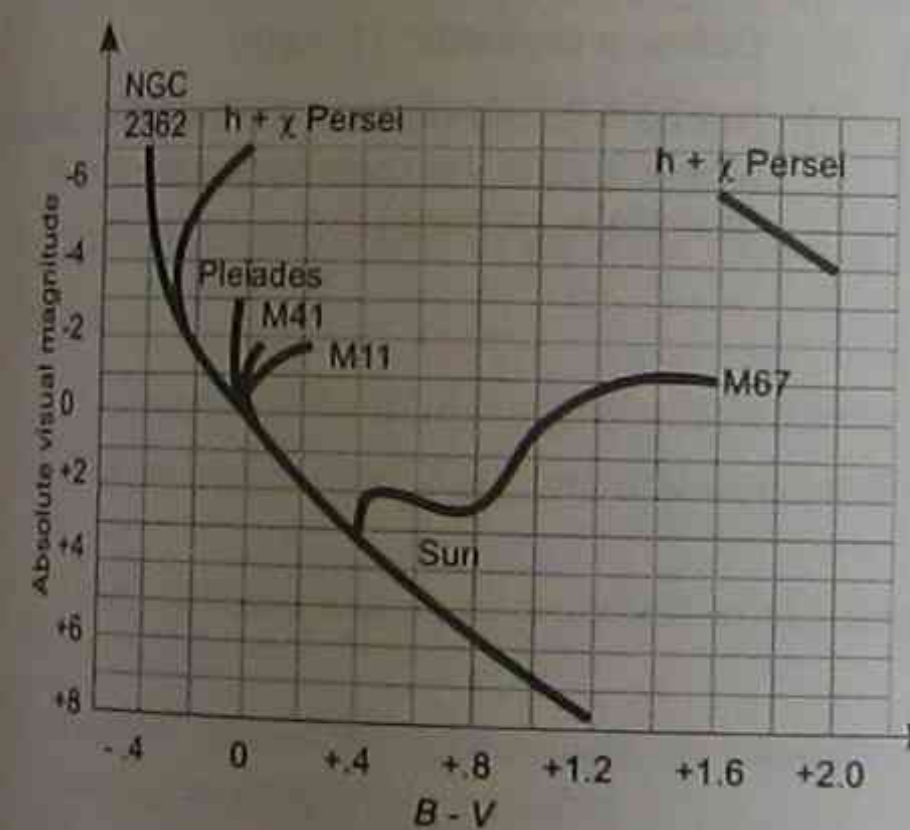

Figure 5.41
- (i) Figure 5.41 shows the H-R diagram for a range of clusters.